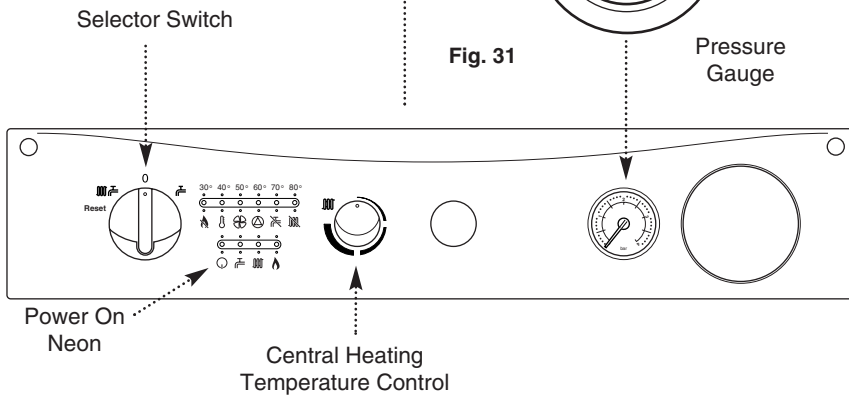

Fig. 32
8. If at any time during commissioning it is required to terminate a particular cycle, e.g. the pump overrun period, turn the selector to the Off position and then back to the On position () (Fig. 32).